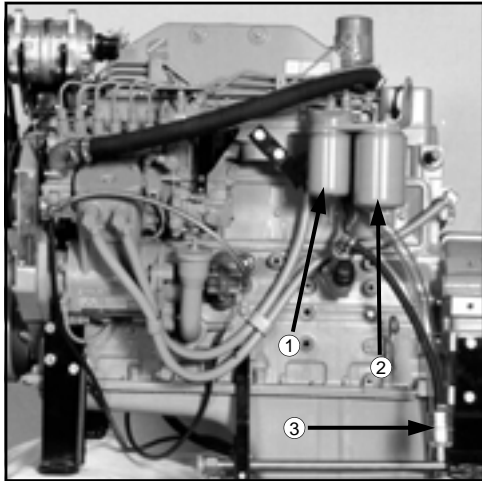

FIG 8.22
**PRIMARY (WATER SEPARATOR)** - (fig. 8.22, item 1) Drain water and sediment from the separator daily. Replace every 500 hours or once a year, whichever comes first.
**SECONDARY** - (fig. 8.22, item 2) Replace every 500 hours or once a year, whichever comes first.
**IN-LINE STRAINER** - (fig. 8.22, item 3) Note direction of fuel flow arrow when replacing.